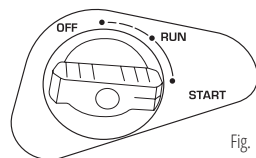

Fig. 3
4. Turn the air choke control knob to the “START” position (fig. 3)